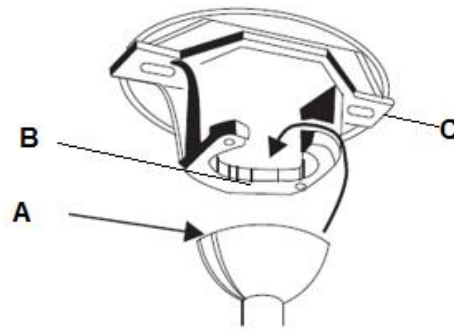

Fig. 6
Lift the fan assembly onto the mounting bracket. Ensure the key slot (A) of the hanger ball is positioned on the key pin (B) of the mounting bracket (C) to prevent the fan from rotating when in operation. (Fig. 6)
- Hang the fan (Refer to "hanging the fan" Fig. 6, page 6).